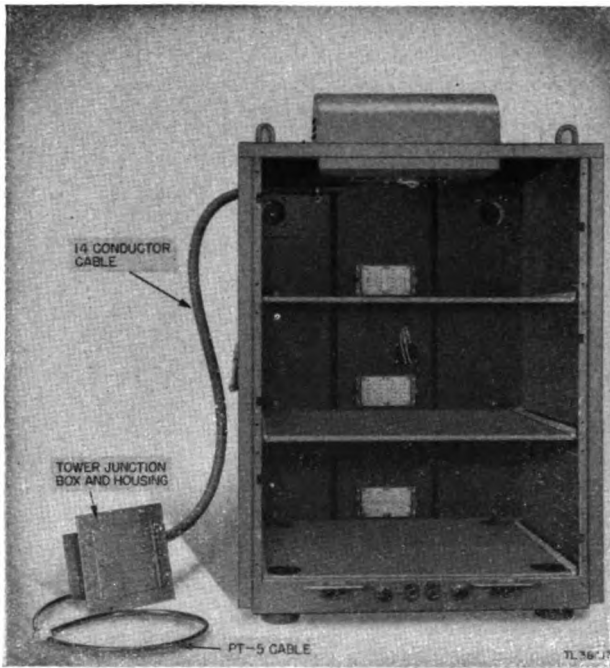

Figure 14. Rack FM-79 showing tower junction box.
a. The rack (fig. 14) is divided into three sections which contain the following components (from top to bottom):
- (1) Indicator I-221-A.
- (2) Radio Receiver and Transmitter BC-1267-A.
- (3) Power Supply RA-105-A.